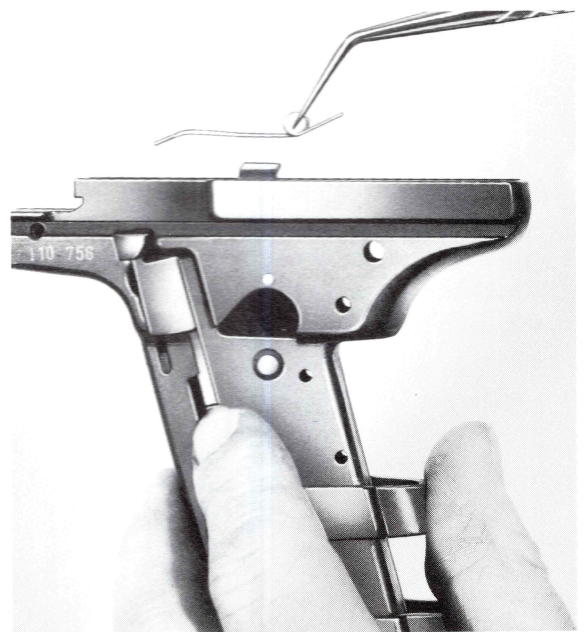

Fig. 30
- With its short leg pointing upwards, introduce the longer leg of the catch spring (3) into the drill hole provided in the fitted catch (Fig. 30).